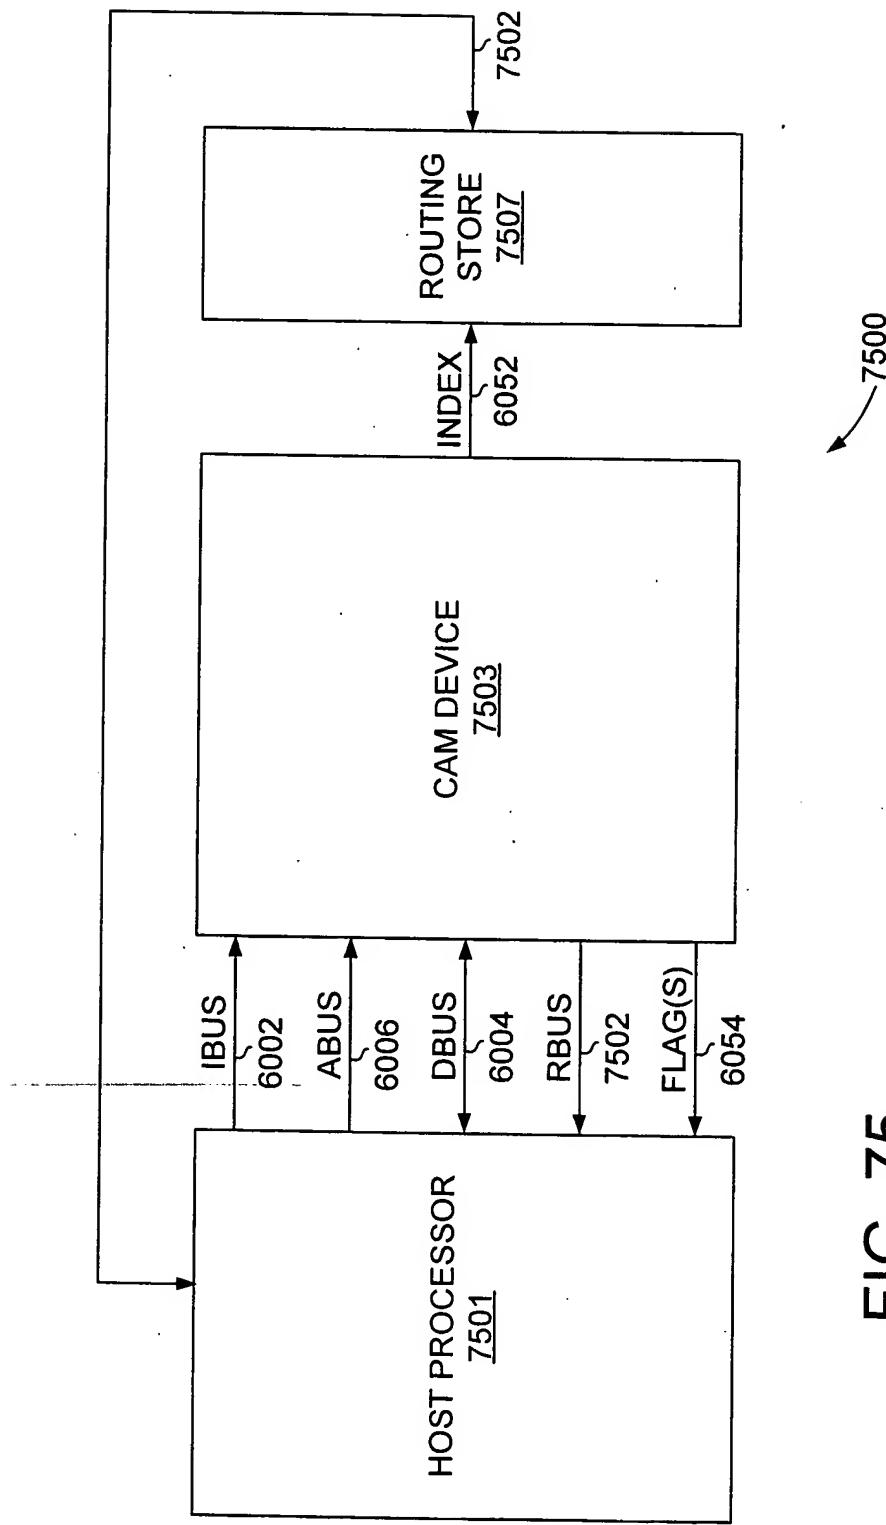

FIG. 75
Figure 75 shows the internal structure of a system. The system consists of three main components: a HOST PROCESSOR 7501, a CAM DEVICE 7503, and a ROUTING STORE 7507. The HOST PROCESSOR 7501 is connected to the CAM DEVICE 7503 via four buses: IBUS (6002), ABUS (6006), DBUS (6004), and RBUS (7502). The CAM DEVICE 7503 is connected to the ROUTING STORE 7507 via an INDEX bus (6052). The ROUTING STORE 7507 is connected to the HOST PROCESSOR 7501 via a FLAG(S) bus (6054). A curved arrow labeled 7500 points to the ROUTING STORE 7507.